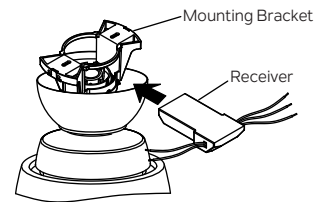

Fig. 13
**Step 1.** Insert the receiver into the mounting bracket, and keep flat in opposition of ceiling. (Fig. 13)